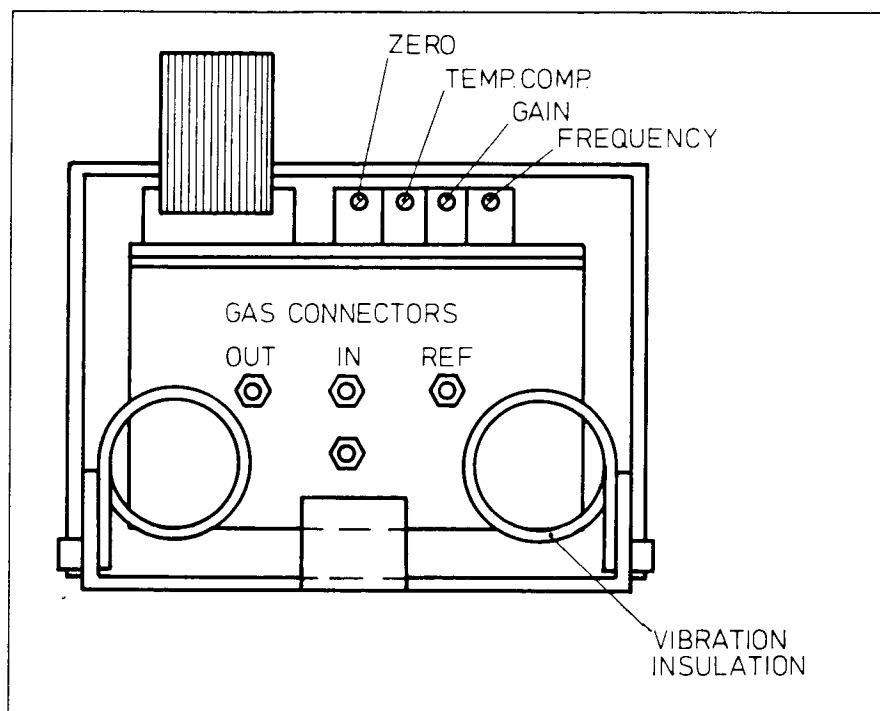

Figure 7.3 O₂ measuring unit adjustments
- b) Let the monitor draw in room air and adjust the voltage to zero with the O₂ measuring unit trim resistor designated 'ZERO' (see Figure 7.3) in the O₂ module pcb. The potentiometers are located at the same side of the measuring unit as the tubing connectors.
- b) Sample 100 % oxygen and adjust the measuring unit output to between 7.7 V and 8.3 V with the trim resistor designated 'G' (see Figure 7.3).